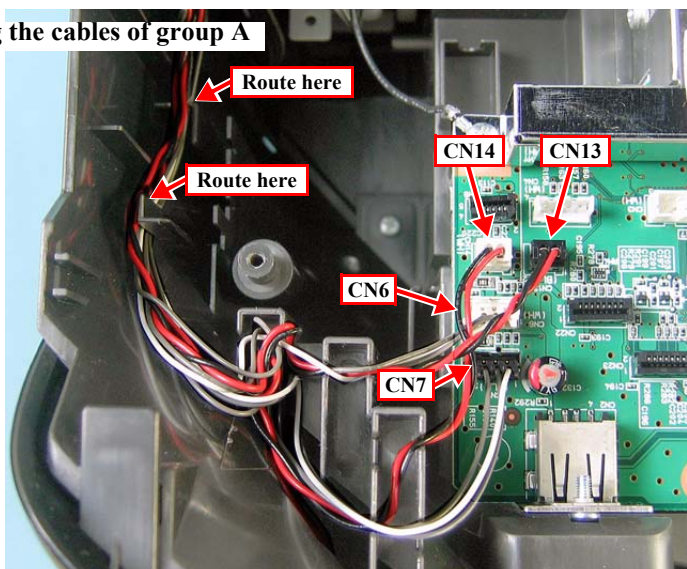

Figure 4-20. Routing the Cables of Group A
4. Place the Cables of group A as shown, and connect the connectors to the Main Board. (Fig. 4-20)